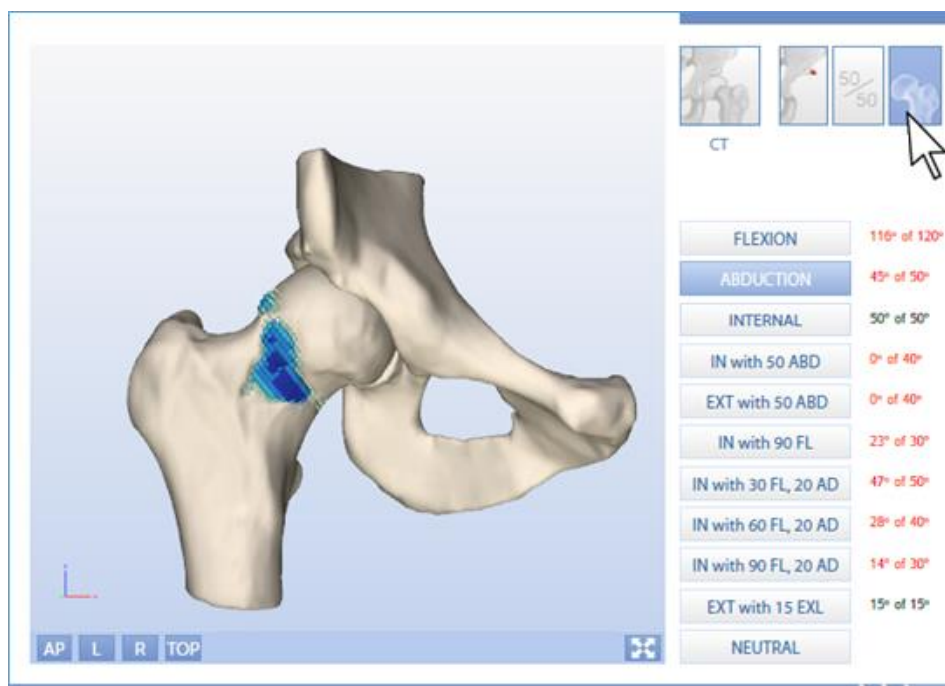

Figure 13 Intersection zone visualization
To see the intersection zones, press the buttons in the top right corner (see Figure 13). There are three buttons:
1. The button on the right (see arrow Figure 13) shows you the intersection zone of the femur.